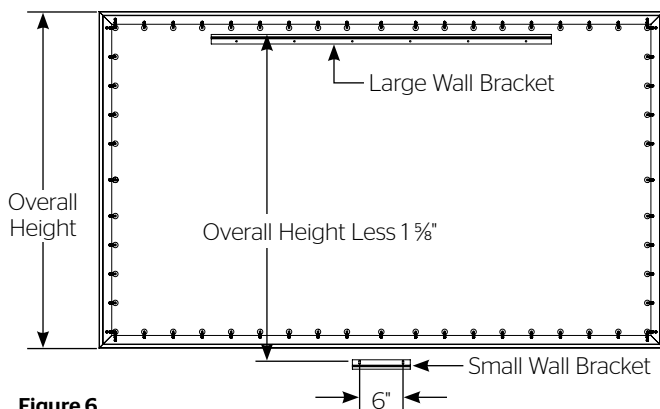

Figure 6
2. To install the lower wall bracket, you must measure the overall height of the screen frame and subtract $1\frac{5}{8}$ ". Using that dimension, measure down from the top edge of the wall bracket and mark the wall for two screw holes. The holes should be centered within the frame and 6" apart. Refer to Figure 6.